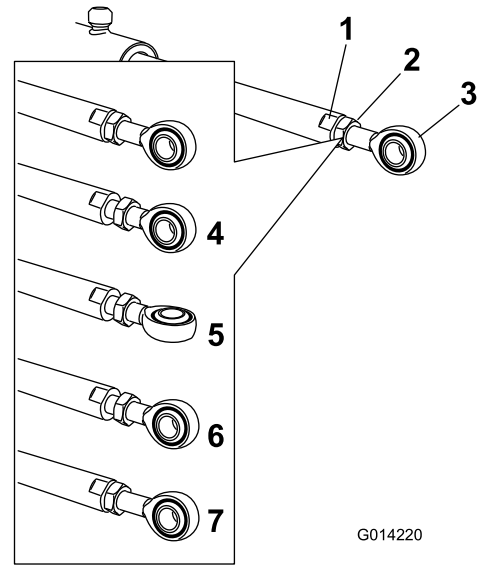

**Figure 113**
2. Remove the cotter pin from the pivot pin (Figure 113).
3. Lift up on the boom and remove the pin (Figure 113), and slowly lower the boom to the ground.
9. While holding the boom, insert the pin through both boom pivot and actuator rod (Figure 113).